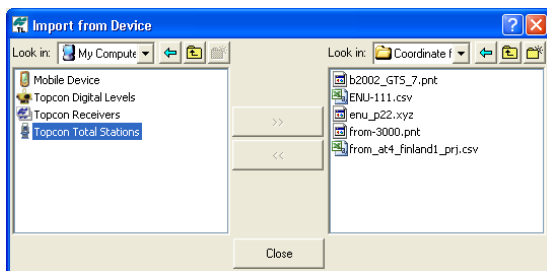

Figure 2-23. Import From Device Window
2. Double-click the *Topcon Total Stations* in the *Import from Device* dialog box (Figure 2-23).